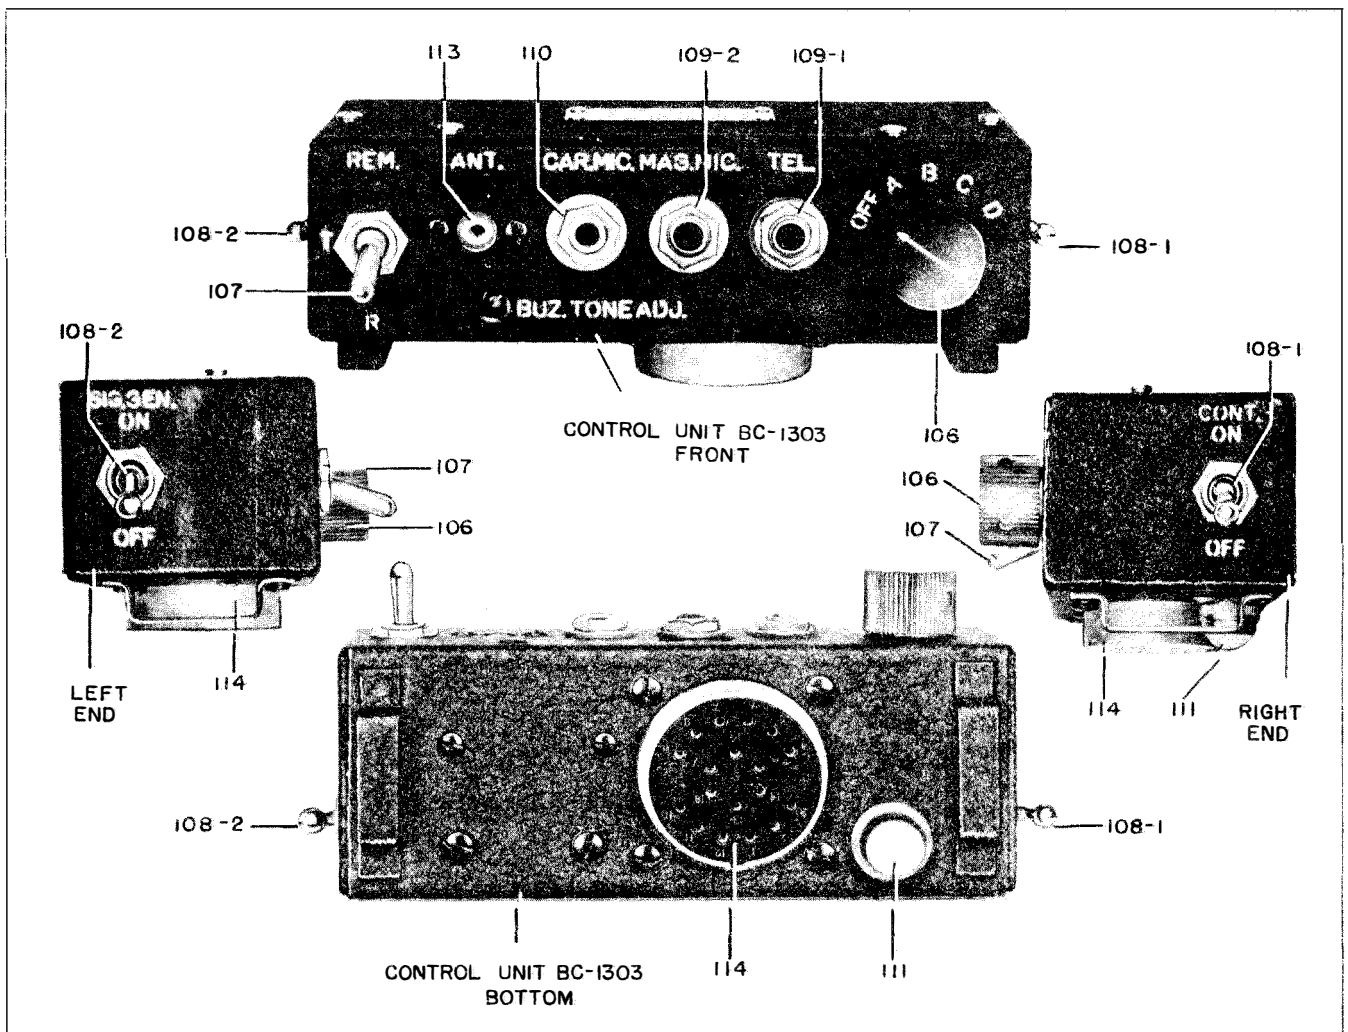

Figure 2-15. Control Unit BC-1303 (Part of Test Equipment IE-36)
(1) Turn the control unit "OFF ABCD" switch (fig. 2-15) to "D."
(2) Press channel release push button 426.
(3) Loosen transmitter tuning-control locknuts 1, 2, 3, 4, until they exert only a light pressure on the cam.
(4) Turn the control unit "OFF ABCD" switch to "A."
(5) Loosen the tuning-control locknuts completely.
(6) Turn the transmitter "METER SWITCH" to position "3" and check the test set for a reading of from 0.4 to 0.63.
(7) Throw the "T-R-REM." switch on the control unit to "T" (or actuate the microphone press-to-talk switch).
(8) Avoid tuning to an undesired harmonic by making certain that when all four tuning controls are adjusted, they indicate approximately the desired-output frequency on the calibration plate. Check to see that the proper crystals are installed.
(9) Turn the transmitter "METER SWITCH" to position "1." Adjust the oscillator plate tuning control for a maximum reading on the test set by turning the indicator plate under the locknut either to the left or right.
(10) Turn the transmitter "METER SWITCH" to position "2" and adjust the first harmonic amplifier plate tuning control for a maximum meter reading.
(11) Turn the transmitter "METER SWITCH" to position "3" and adjust the second harmonic amplifier plate tuning control for maximum meter reading, and immediately adjust the power amplifier plate tuning control for a minimum meter reading.
(1) To tune channel "B," turn the "OFF ABCD" switch on the control unit to "B" (fig. 2-15) and follow the same tuning procedure outlined for channel "A" in paragraph 8c, this section. However, do not change the antenna coupling adjustment unless the meter reading is more than 0.63. Tune channels "C" and "D" in like manner.
(2) Press the channel release button 426 and tighten the locknuts on the tuning adjustments.
b. Connect the control unit (see fig. 2-15) to the rack according to directions in paragraph 6b, this section. Insert the pin probe of Cord CD-1170 into the "ANT" pin jack on the control unit. Disconnect the antenna cable from Socket SO-153 on Rack FT-244-A and clip the alligator clip on the end of Cord CD-1170 to the center pin of Socket SO-153. Insert the plug from the headset into Jack JK-49 of adaptor Cord CD-1169, and insert Plug PL-55 (attached to cord marked "TEL") into the "TEL" jack of the control unit.
c. Turn the "OFF ABCD" switch on the control unit (fig. 2-15) to "A." The dynamotor will start and the frequency shifter mechanism will shift the equipment to channel "A." If the mechanism does not shift, turn the "OFF ABCD" switch to another channel and then switch back to "A." Now, try channels "B," "C," and "D" and observe the action of the mechanism. Shift the equipment to channel "A."